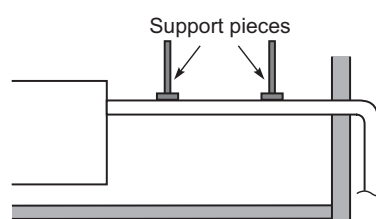

Fig. 2-99
- Do not apply force to the piping on the unit side when connecting the drain pipe. The pipe should not be allowed to hang unsupported from its connection to the unit. Fasten the pipe to a wall, frame, or other support as close to the unit as possible. (Fig. 2-99)